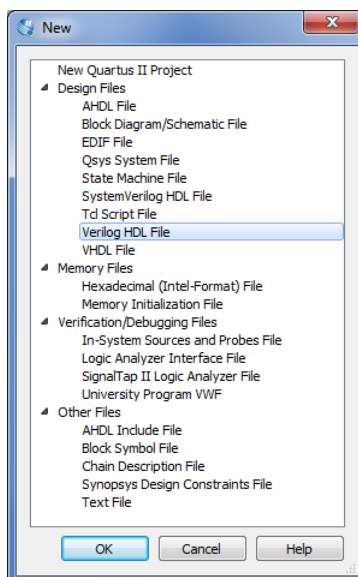

Figure 13: Choose to prepare a Verilog file.
1. Select **File > New** to get the window in Figure 13, choose **Verilog HDL File**, and click **OK**. This opens the Text Editor window.